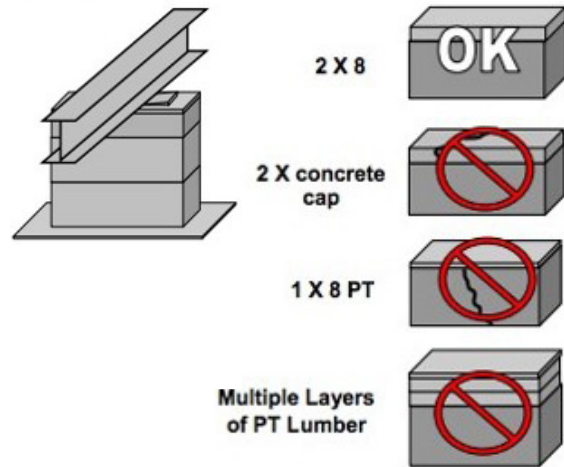

Figure 12 Cap blocks should be structurally stable and free of cracks. Cap blocks must also meet specific requirements regarding thickness and dimension.
Cap blocks are rectangular pads that are placed on top of the pier (Figure 12). A minimum thickness of 4 inches and minimum flexural strength of 2,200 pounds are required. A 2" x 8" x 16" cap block made of wood, concrete or other material approved by HUD must completely cover the top of the pier. Plastic cap blocks can also be used for this purpose. Cap blocks such as 1x8 Pressure Treated (PT) wood or multiple layers of PT lumber cannot be used (Figure 12).